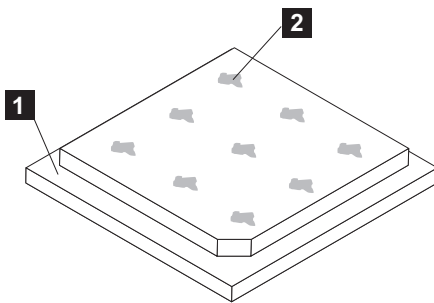

Figure 313. Applying thermal grease to the SAN Volume Controller 2145-CG8 or 2145-CF8 microprocessor
- e. Use the thermal-grease syringe to place nine uniformly spaced dots of 0.02 mL each on the top of the microprocessor, as shown in Figure 313. The outermost dots must be within approximately 5 mm of the edge of the microprocessor to ensure uniform distribution of the grease.